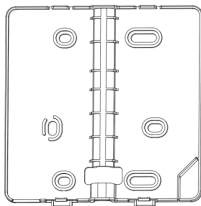

Fig.2
3. As shown in Fig.2, fix the wire controller to the wall with three screws through the three oval holes on the back cover of the wire controller.